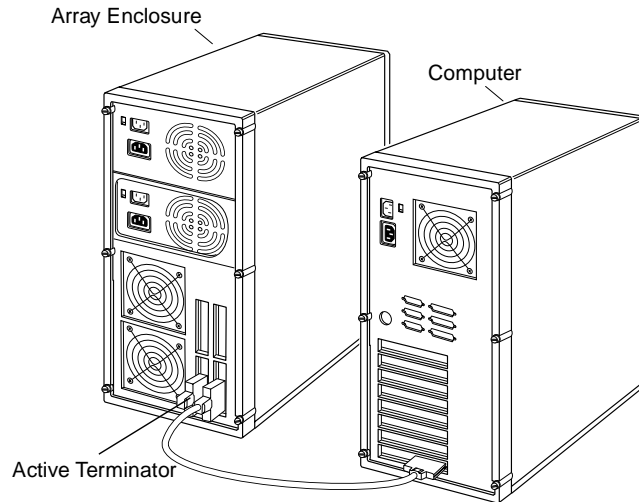

Figure 2-9. A Typical Array Enclosure Setup
Figure 2-9 shows a typical setup between the array enclosure and the computer. To install your SCSI devices in an array enclosure, refer to the enclosure's documentation. The following information is provided to help you properly connect your enclosure to the computer. (See Appendix E, *Listing of Vendors* for a list of popular array storage enclosure and disk drive manufacturers.)
- Ideally, the array enclosure itself should provide termination capability, either on the SCSI backplane or with an attachable active terminator, as shown in Figure 2-9, and you should disable termination on all the drives in the enclosure. If you terminate the SCSI bus by enabling termination on a drive, you may run into problems if you have to replace that drive and you then forget to terminate the replacement drive.